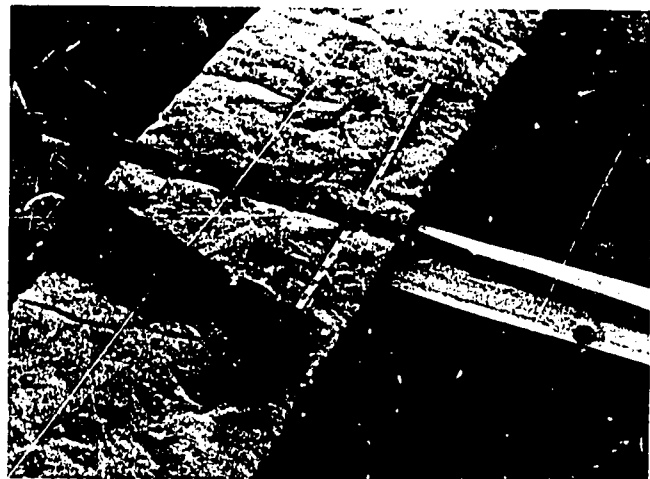

Fig. 60-1. Measuring 43" Length of Blanket Insulation
2. Measure a 43" length of blanket insulation. Lay the straightedge across the blanket at the 43" mark, with a cutting board underneath the blanket. See Fig. 60-1.